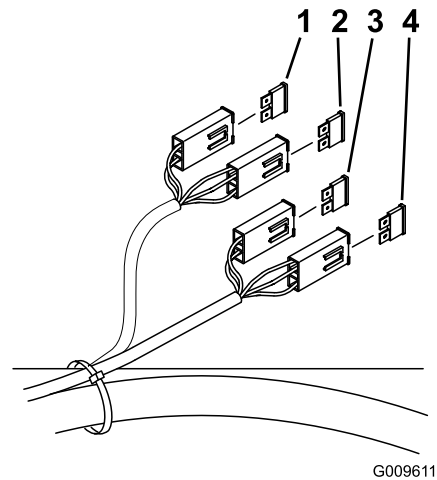

Figure 49
- Unlatch the seat and raise the seat to gain access to fuse holder (Figure 49).
- Install a new fuse (Figure 49).